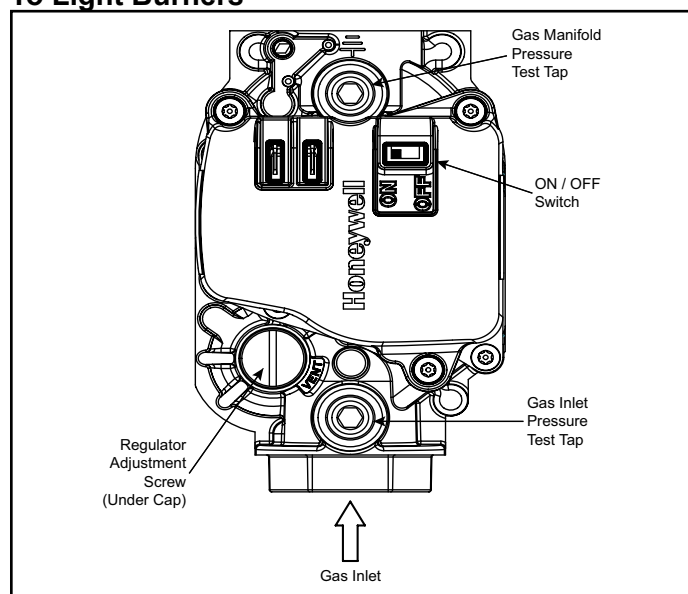

Figure 10. Gas Valve
3. Move the gas valve switch to the "ON" position (see Figure 10).
2. Move the gas valve switch to the "OFF" position (see Figure 10).